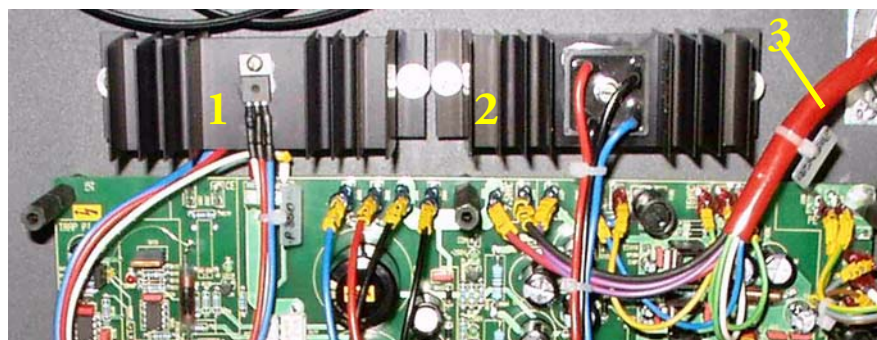

Figure 2-58. Upper Part of Ion Source Control Board
Figure 2-58 shows the upper part of the ion source control board.
*See Figure 2-58.